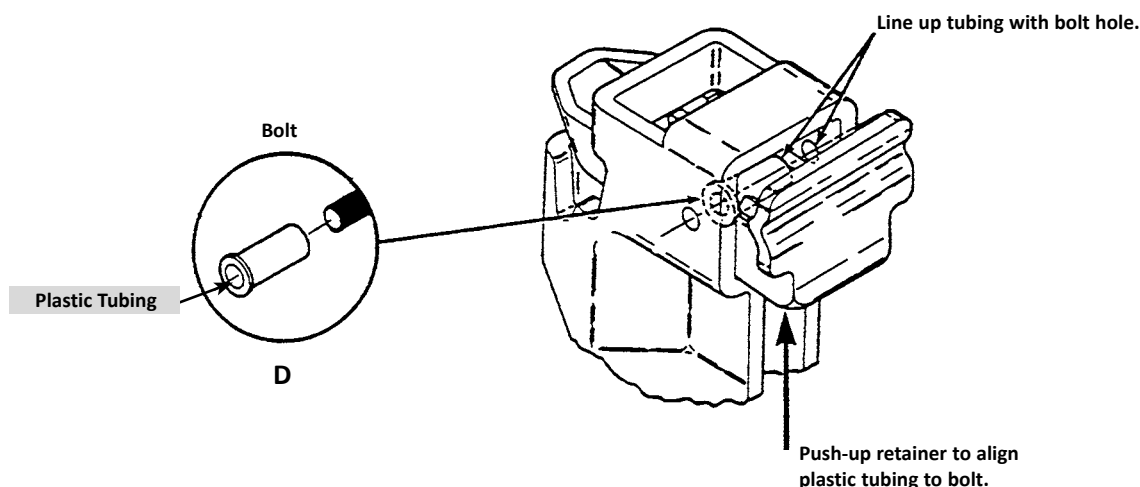

Figure 4 – Systems™ Scaffold Wedge Retainer
4. With your finger, push up on the retainer until the plastic tube aligns with the pre-drilled holes in the end connector (Fig. 4). Insert the bolt through the pre-drilled hole. Allow it to pass through the plastic tube from the side opposite the larger diameter tube end before it comes through the pre-drilled hole at the opposite side. Note: the tube may fit snugly around the bolt. If needed, lightly tap the head of the bolt to drive through.